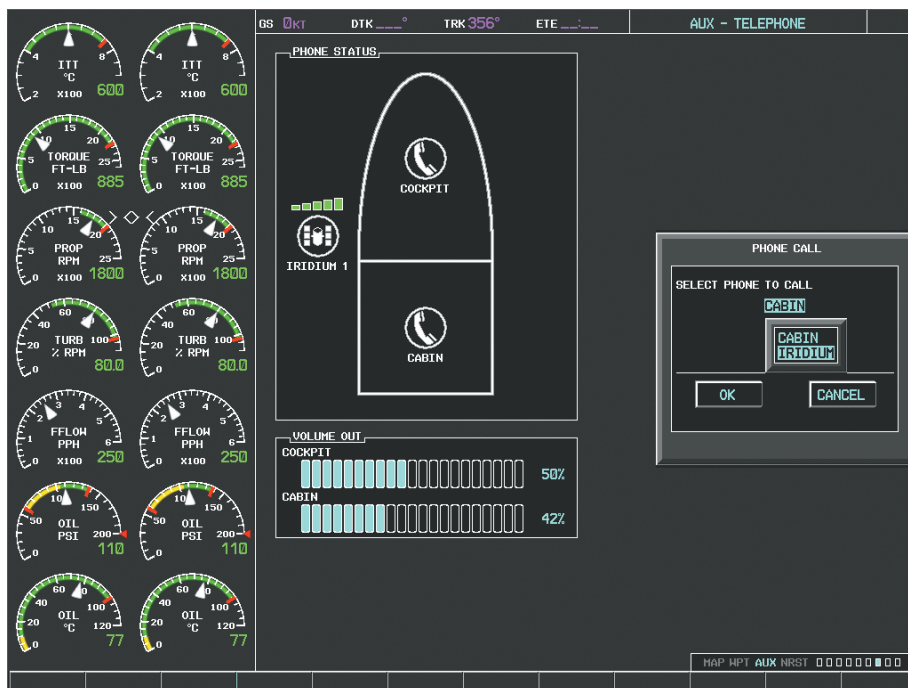

Figure 8-84 Selecting the Iridium Satellite System
- 3) Turn the small **FMS** Knob to select 'IRIDIUM' as seen in Figure 8-84.